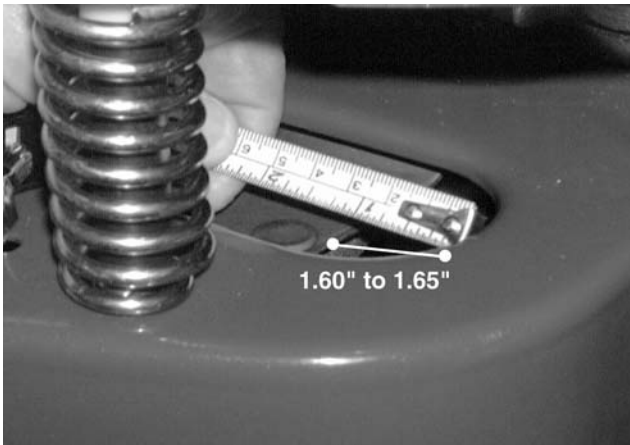

Figure 8-18.
15. With a partner applying 10 pounds of force to the variable pedal assembly, measure the distance between the edge of the weld pin head and the right inside edge of the oval extrusion. The measurement will be between 1.60" and 1.65". See Figure 8-18.